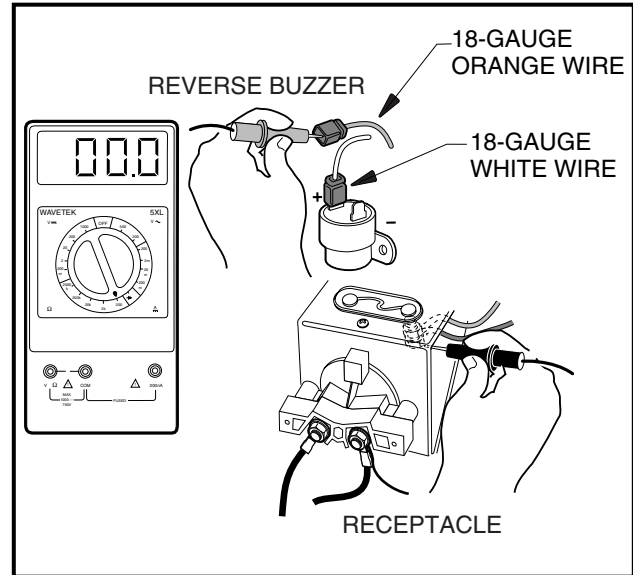

Figure 11-9 Reverse Buzzer Test – Orange Wire
4. Disconnect the 18-gauge orange wire at the reverse buzzer. Place the black (-) probe of a multimeter (set to  $\Omega$ ) on the receptacle fuse assembly at the 10-gauge red wire and 18-gauge orange wire connection, and place the red (+) probe on the terminal end of the 18-gauge orange wire at the reverse buzzer. The multimeter should indicate continuity. If not, replace the 18-gauge orange wire (**Figure 11-9, Page 11-11**).